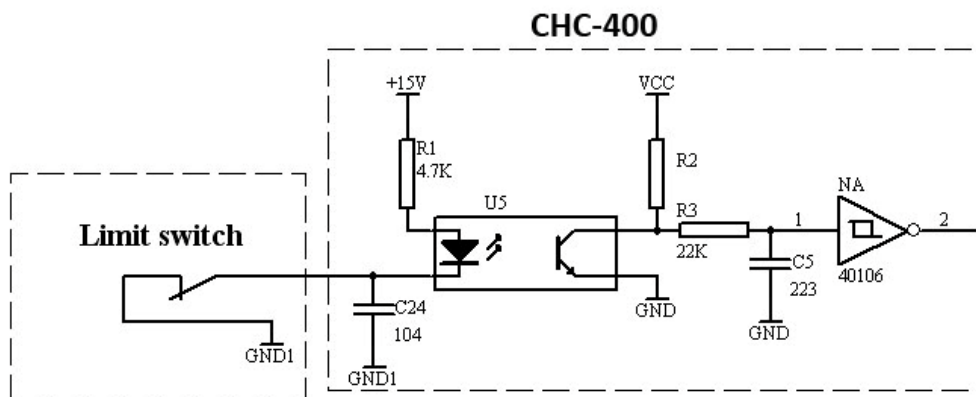

Figure 3-6 Limit input
2. CHC-400 limit switch must be normally closed contact, when one side limit is open, the move at this direction must be stopped, but the other direction move is still effective. Limit switch connection as figure 3-6.